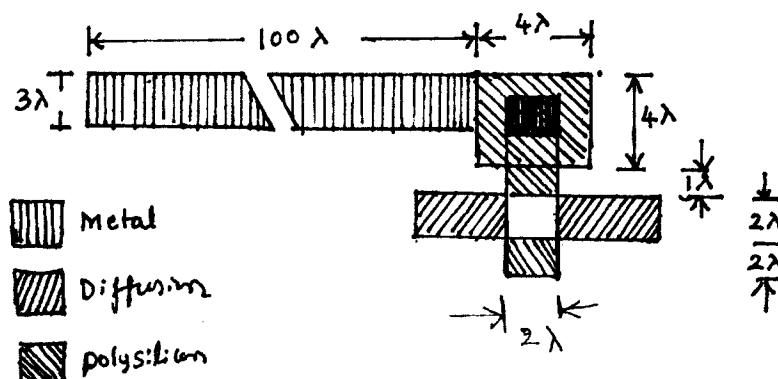

Fig.Q.4(a)
- 4 a. Calculate the area capacitance values associated with the following structure, having different layers as shown in Fig.Q.4(a) (relative 'C' value for polysilicon-to-substrate = $0.1 \text{ pf} \times 10^{-4}/\mu\text{m}^2$ and metal 1-to-substrate = $0.075 \text{ pf} \times 10^{-4}/\mu\text{m}^2$). (06 Marks)